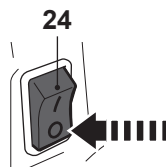

Fig. 28
- > Release the throttle trigger (27) and let the product run in idle for a while.
- > Set the ignition switch (24) to “O” (off position) (Fig. 28).